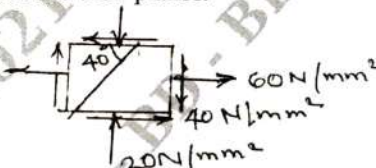

Fig.Q.3(b)
b. Stresses acting at a point in a two dimensional stress system shown in the Fig.Q.3(b), find: